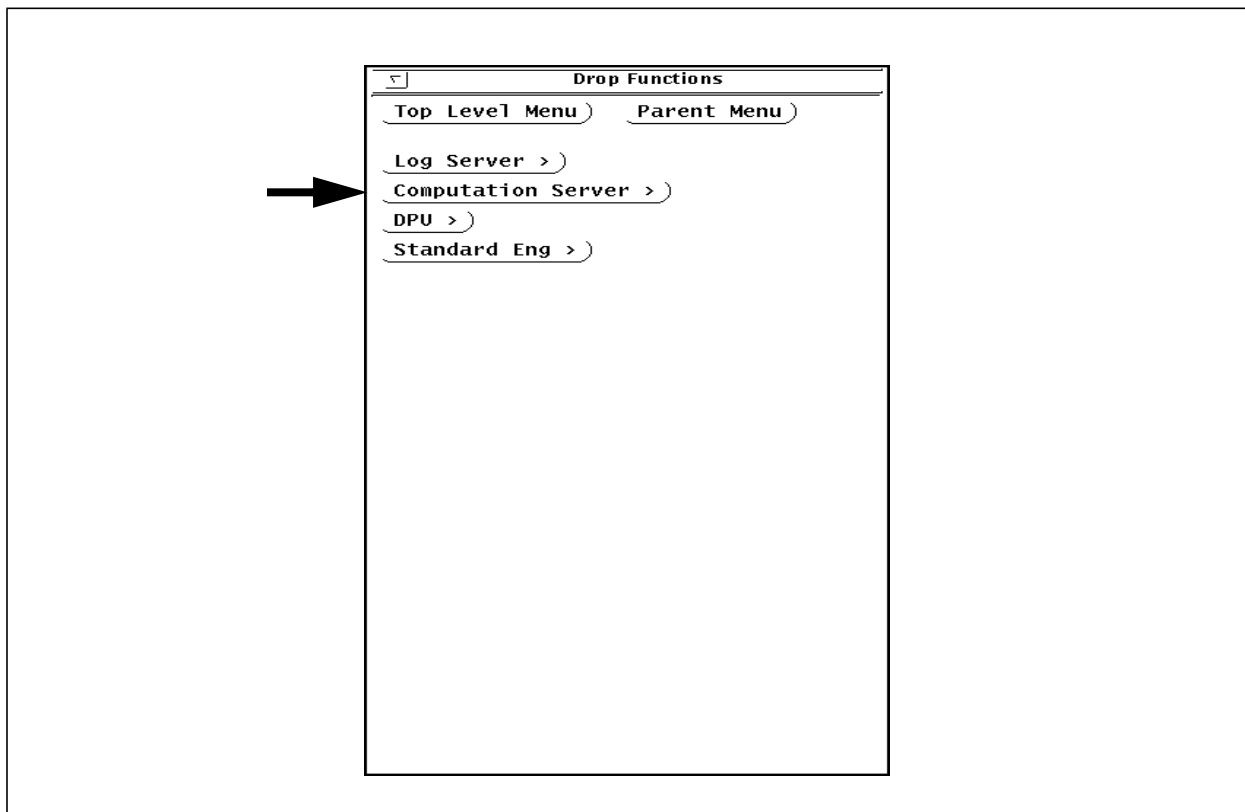

Figure 5-5. Drop Functions Window
3. Select **Computation Server** from the **Drop Functions** menu (as shown in Figure 5-5).